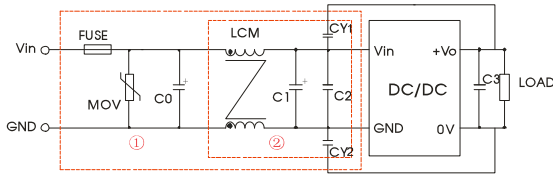

Fig. 6
| EMI | CE | Single output | CISPR22/EN55022 | CLASS A (Bare component)/ CLASS B (see Fig.6-② for recommended circuit) | |
| | RE | Single output | CISPR22/EN55022 | CLASS A (Bare component)/ CLASS B (see Fig.6-② for recommended circuit) | |
| | EFT | Single output | IEC/EN61000-4-4 | ±2KV (see Fig.6-① for recommended circuit) | perf. Criteria B |
| | Surge | Single output | IEC/EN61000-4-5 | line to line ±2KV (see Fig.6-① for recommended circuit) | perf. Criteria B |
Notes: Part ① in the Fig. 6 is used for EMS test and part ② for EMI filtering; selected based on needs.